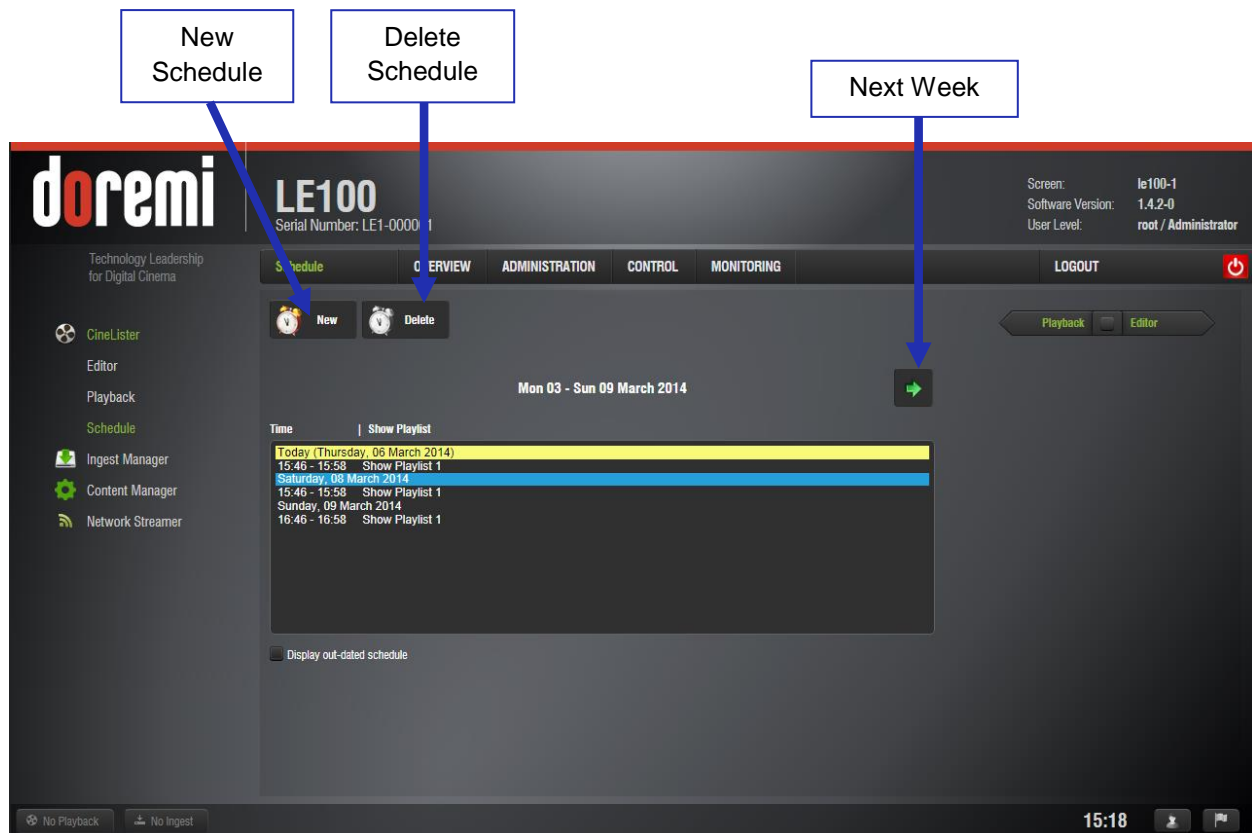

Figure 23: CineLister Schedule
- Click on the CineLister link followed by the Schedule link on the left side of the GUI (see Figure 23).